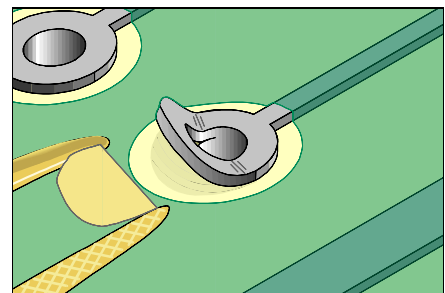

Figure 1: Cut out the appropriate shape of Bonding Film material to match the area of the lifted land.
5. Cut out a piece of bonding film that matches the area of the lifted land. Be careful not to contaminate the dry film epoxy with materials that could reduce the bond strength. (See Figure 1).
6. Place the dry film under the lifted land. (See Figure 1).